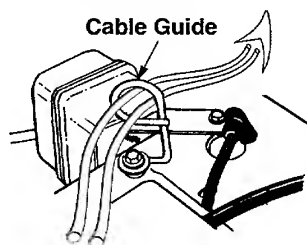

Figure 10
- Slip the cables that run from the handle panel to the chute into the cable guide located on top of the engine. See Figure 10.